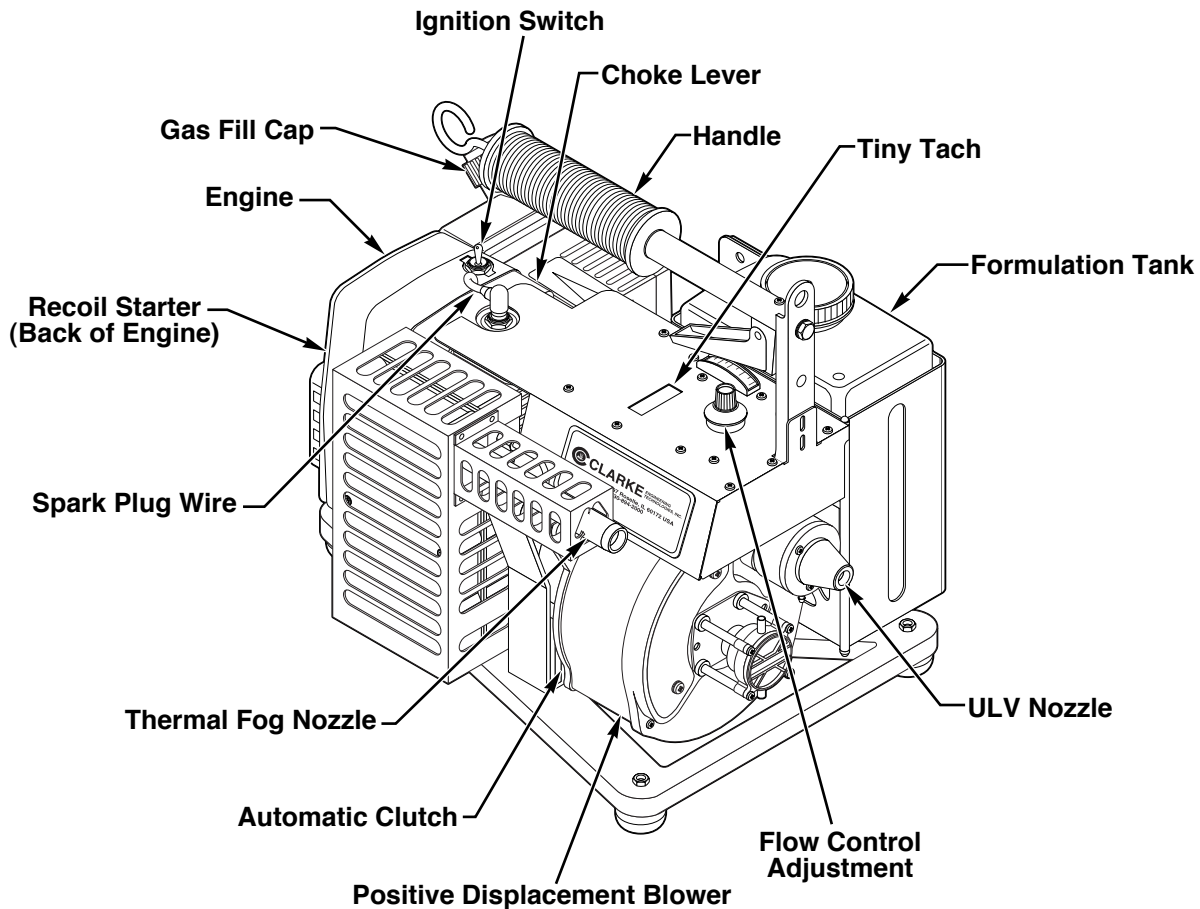

Figure 1
A tachometer/hour meter (Tiny Tach) is also mounted on the control panel. When the engine is running, the display will indicate the RPM of the engine. When the engine is shut down, the display will switch to run time, initially in minutes and then switching to hours once the total reaches 60 minutes. The display will flash off and on for approximately 10 minutes to show the total run time. If, after the display stops flashing, only two numbers are shown, the time indicated represents minutes, i.e. 03 means three minutes. If there are four digits, such as 0024, then the time indicated will be the number of hours. The meter will automatically switch from minutes to hours once run time reaches 59 minutes. Reference Figure 1.
1. Fill the engine fuel tank. Reference Figure 1.
5. Fill the insecticide tank. Reference Figure 1.
1. Put the engine ignition switch in the ON position. Reference Figure 1.
3. Close the flow control adjustment valve (turn fully clockwise), grasp the handle bar and squeeze the throttle trigger. Reference Figure 1.
4. Pull the recoil start briskly. Gradually return the handle. Do not let it snap back. Pull the rope in the direction of the starter rotation. Do not pull the rope out of the drum. Reference Figure 1.
1. Move the selector switch to the ULV position. Reference Figure 1.
2. Set the flow control adjustment to the desired flow rate setting. Reference Figure 1.
1. Turn the flow control adjustment to the fully OFF (clockwise) position. Reference Figure 1.
2. Move the selector switch to the Thermal Fog position. Reference Figure 1.
3. Squeeze the throttle trigger and bring the engine to full speed for 1 to 2 minutes to heat up the fog nozzle. Reference Figure 1.